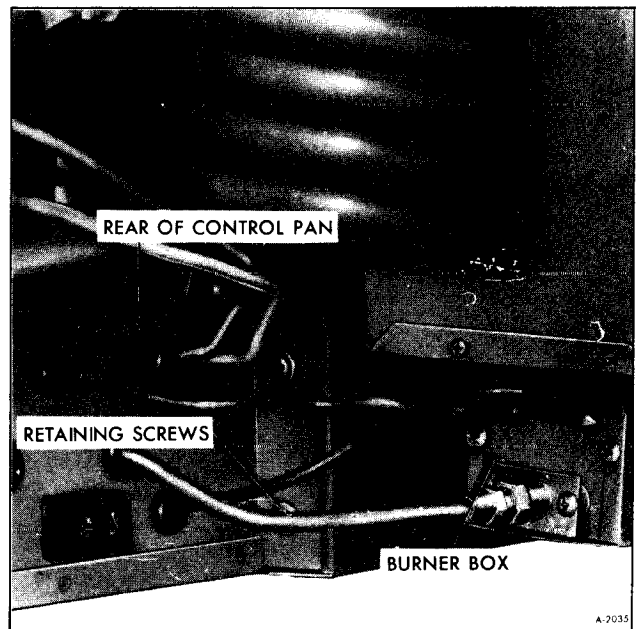

Figure 9—Control Pan (Rear)
5. Remove four screws from rear of control pan. Refer to Figure 9.